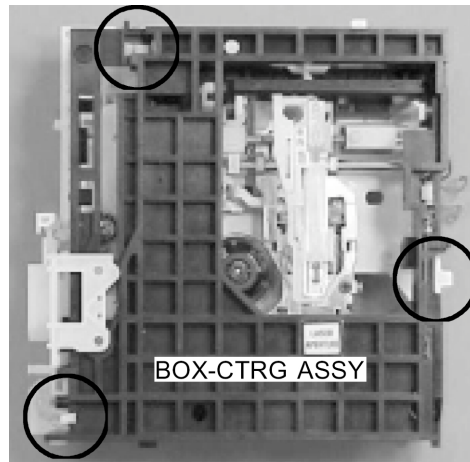

Fig.4-3
- 3) Disengage the three detents (circled in Fig. 4-3) of the CHAS ASSY and remove the BOX-CTRG, ASSY.